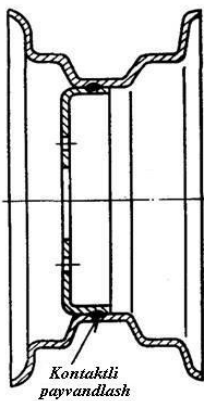

Figure 3. Car wheel rim
The cold-rolled strip is unwound from the roll (position 1), straightened, cut (2) and rolled into a circle on a bending machine (3). After bending, the rolled strips are rolled one after another (4) and sent to one of the two devices for contact welding. In this case, automatic detection of the seam and its welding are carried out using a nozzle. The welded rings are then deburred (5), the ends are machined (6), the chamfers are removed (7), and after cooling (8), the tube is profiled (9-12) and calibrated (13). The preparation of the wheel is completed by contact welding on machines located in series at four points (Fig. 3) and pressing the disk into the hub.